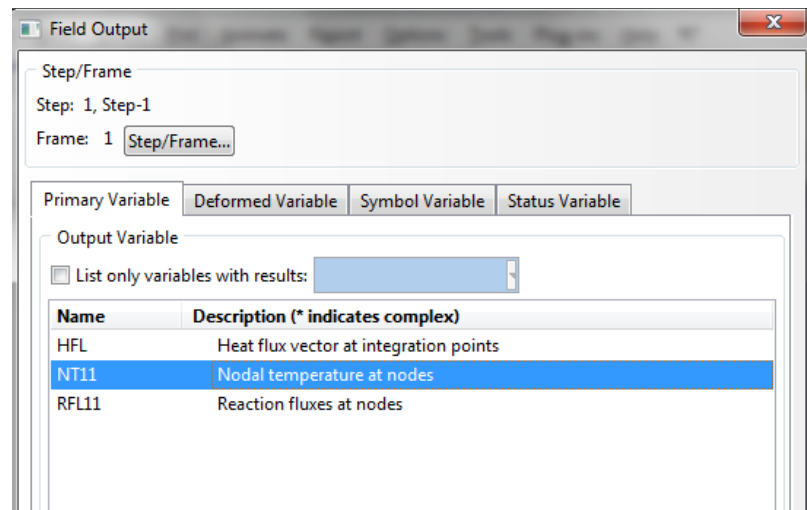

Figure 18
- Under the Results menu (top of Screen) select field output and Nodal Temperature NT11 as in Figure 18